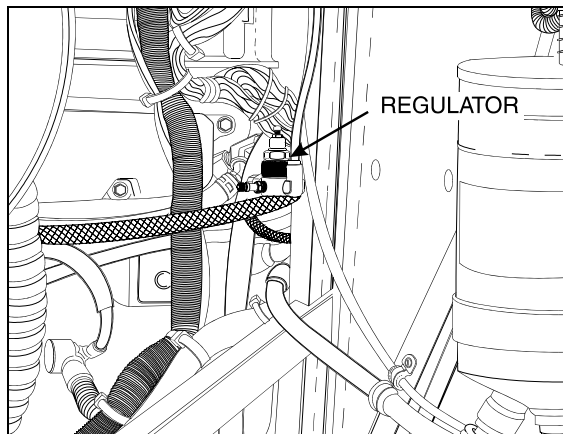

FIGURE 5: AIR PRESSURE REGULATOR 07037
- FIGURE 5: AIR PRESSURE REGULATOR.....02-4
The air pressure regulator is located in engine compartment and accessible through R.H. side door (Fig. 5). To adjust, remove dust cap from check valve, connect a pressure gauge to port.